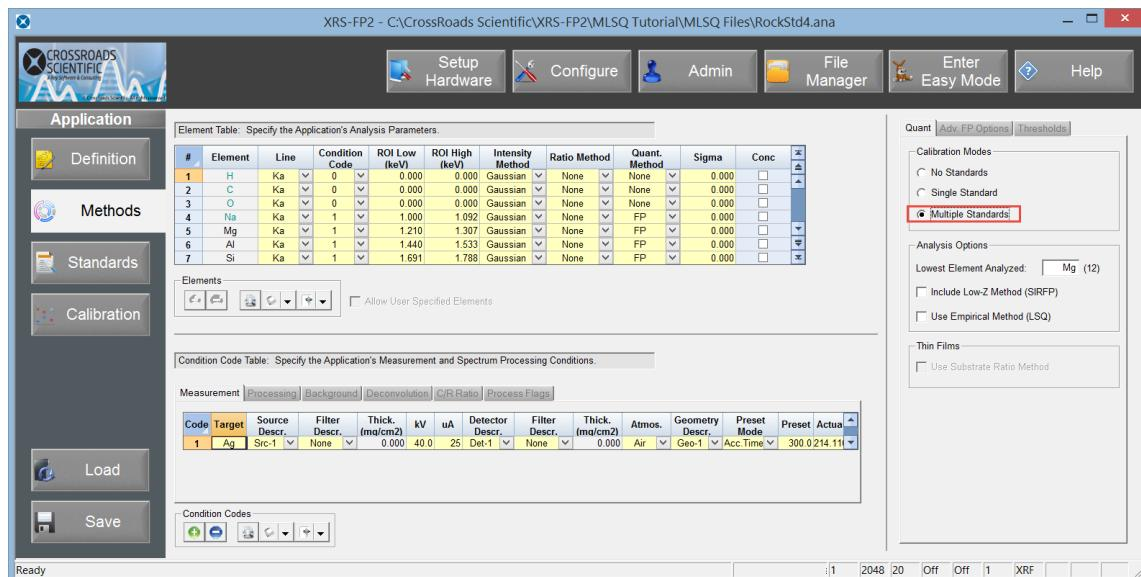

Figure 3. Application Workflow – Multiple Standards Calibration Mode. Select “Multiple Standards” for the “Calibration Mode”.
13. This will bring up the **Methods** button in the Application workflow shown below in Figure 3. Change the application quant method (calibration mode), in the R-hand panel under the “Quant” tab, to “Multiple Standards” (Fig. 3 below).